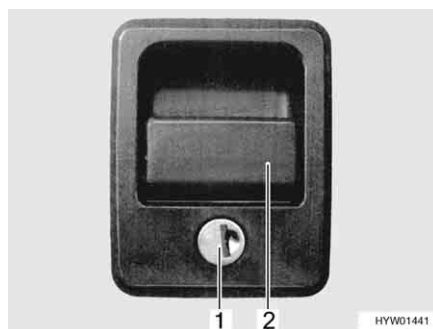

Fig. 45 Flap lock with recessed handle
- Insert key into locking cylinder (Fig. 45,1) and turn a quarter turn. The flap lock is unlatched.
- Pull on the lock handle (Fig. 45,2). The external flap is open.